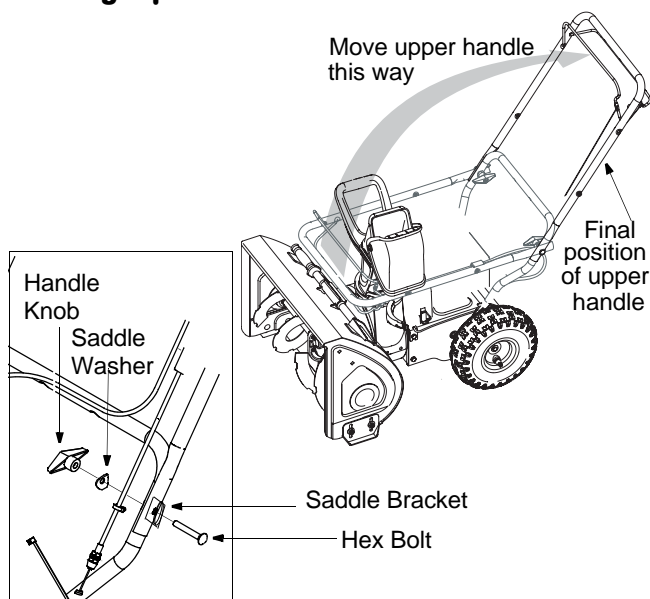

Figure 1
- Loosen the handle knob, saddle washer and saddle bracket on each side of the handle. See Figure 1.
- Hold both control bails against the upper handle and pull up as shown in Figure 1. Make sure that the upper handle locks over the lower handle and the saddle brackets align with the handle. You may have to carefully manoeuvre the upper handle to clear the discharge chute.
- Tighten the handle knobs on each side of the handle. See Figure 1.